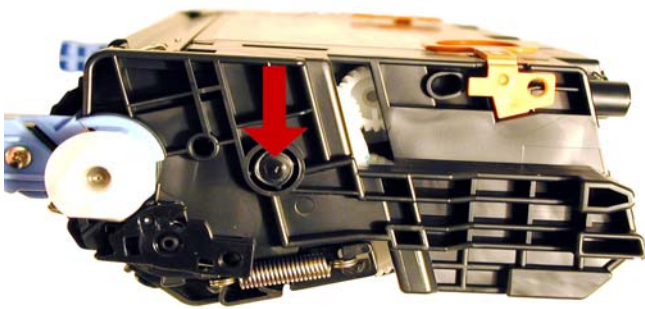

Figure 9
1) Remove the two covers over the hinge pins with a sharp sturdy razor knife. Shave the top off, and dig out around the pin until you can grasp it with your flush cutting wire cutters. Only cut deep enough so that you can remove the pin. If too deep a hole is made, the hinge pin may not fit properly, and allow the two halves to move away from each other. See **Figures 9, 9A, 10 & 11**